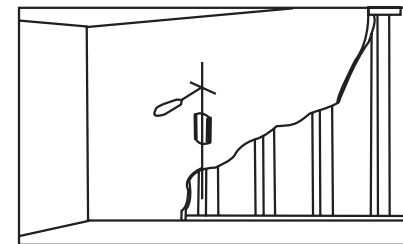
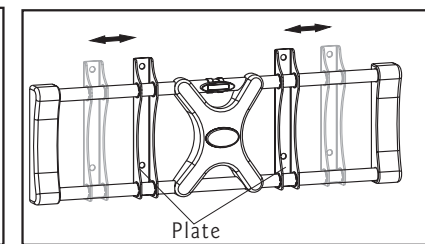

Fig 3b
Fig 3c
Using a awl or nail to make where the nails are located, as shown as Fig.3b. Distance between two nails for fixing wall mount must not less than 16". Slide the plate into position as required. (Fig.3c) Pre-drill these holes with a 5mm drill bit to at least 40mm in deep hole. Use wall mount as a template to mark the location of other three holes and drill the same holes. Please make sure these holes are level and eudipleural. Fix the wall mount to the wall with 4 long bolts(H) and washers(J)by box wrench(6).
Using a awl or nail to make where the nails are located. Distance between two nails for fixing wall mount must not less than 16". Slide the plate into position as required. (Fig.3c) Pre-drill these holes with a 10mm drill bit to at least 50mm in deep hole. Use wall mount as a template to mark the location of other three holes and drill the same holes. Please make sure these holes are level and eudipleural. Insert wall anchors(I) into each of these holes. Attach the wall mount to the wall using 4 long bolts(H) and washers(J)by box wrench(6).